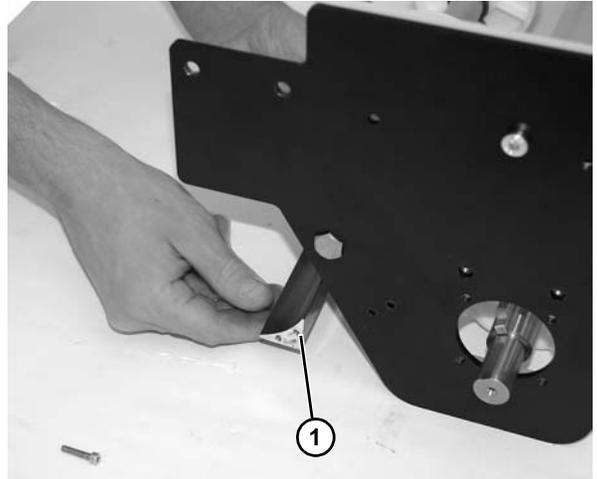

Figure 50
9. Remove guard (Figure 50, item 1).
Note orientation of guard (Figure 50, item 1) before removing from end plates.